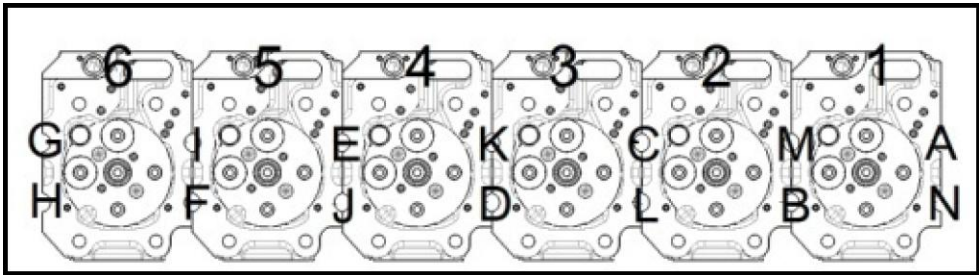

Figure 45.
- 2. Loosen the cylinder secondary bolts in the following order A-N (Refer to figure 45).